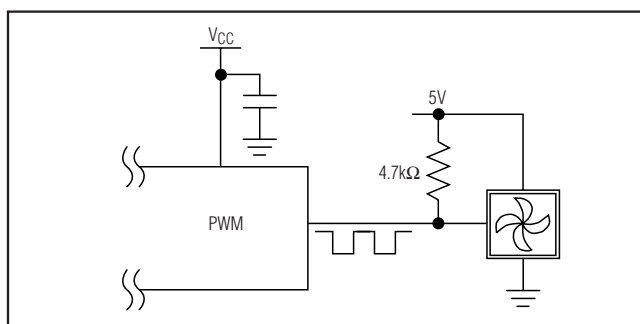

Figure 6. Controlling a PWM Input Fan with the MAX6615/MAX6616s' PWM Output (Typically, the 35kHz PWM Frequency Is Used)
- 3) PWM\_ directly drives the logic-level PWM speed-control input on a fan that has this type of input. This approach requires fewer external components and combines the efficiency of (1) with the low noise of (2). An example of PWM\_ driving a fan with a speed-control input is shown in Figure 6. Bit D4 in register 02h should be set to 1 when this configuration is used.